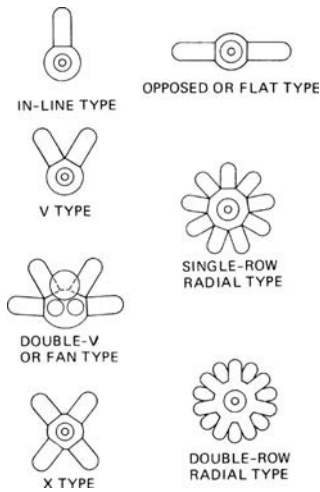

FIGURE 1-10 Engines classified according to cylinder arrangement.
single-row; (9) radial type, double-row; (10) radial type, multiple-row or “corn-cob.” The simple drawings in Fig. 1-10 illustrate some of these arrangements.